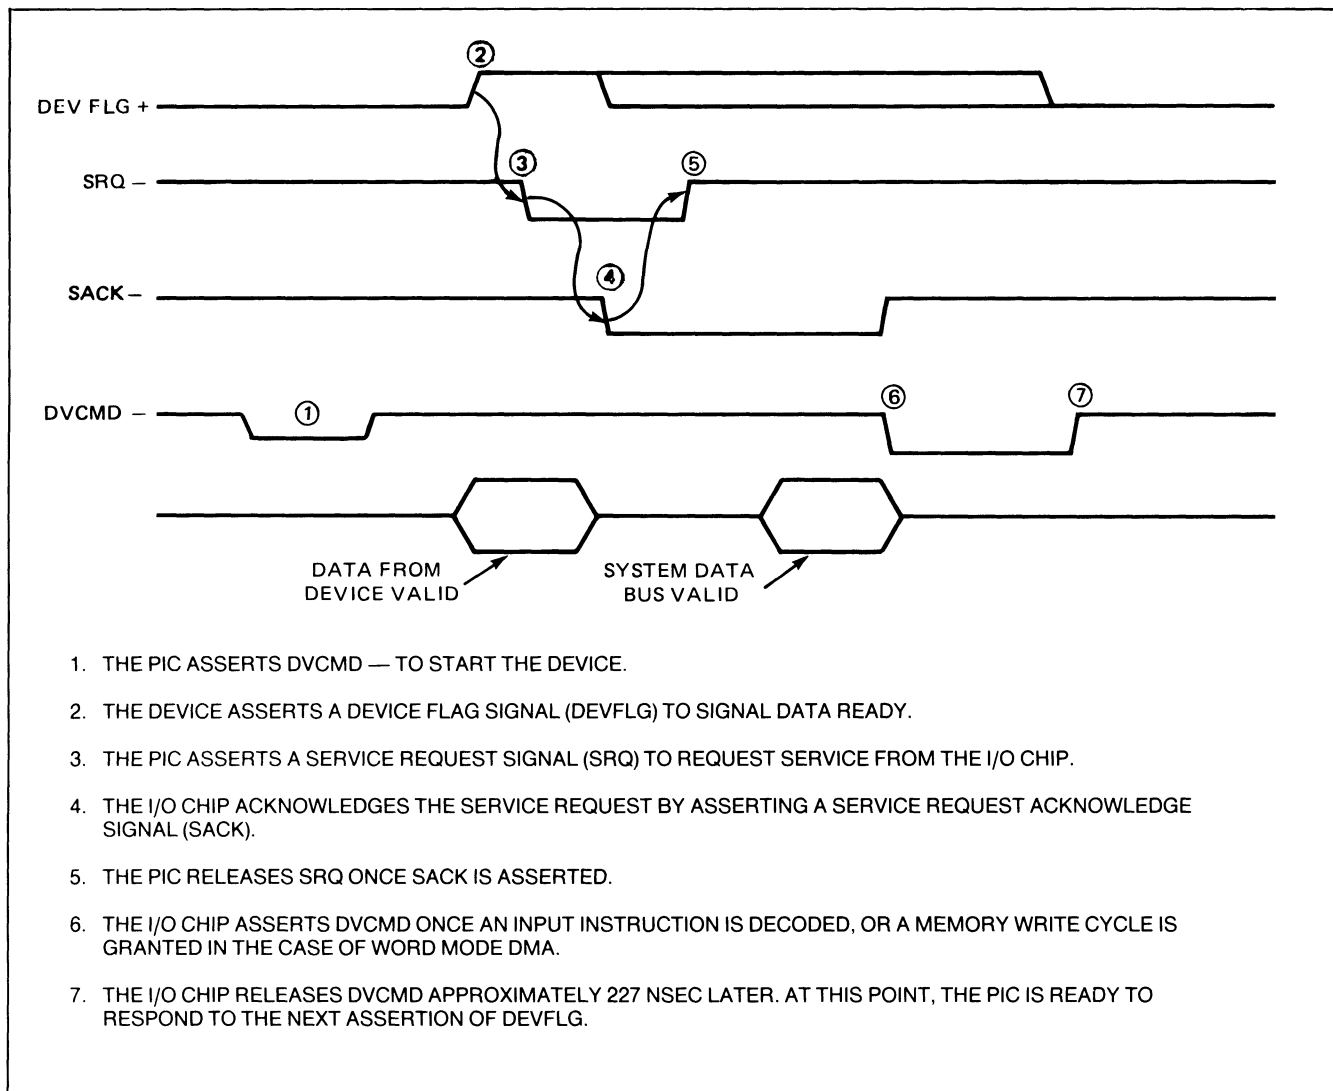

Figure 4-2. Input Transfer Timing
**4-5. INPUT OPERATION.** An input operation is defined as the transfer of data from a peripheral device to the computer. The protocol for this type of transfer is illustrated in figure 4-2. A Device Command (DVCMD) signal must be issued in order to start the device. The data transfer then proceeds as shown in figure 4-2.